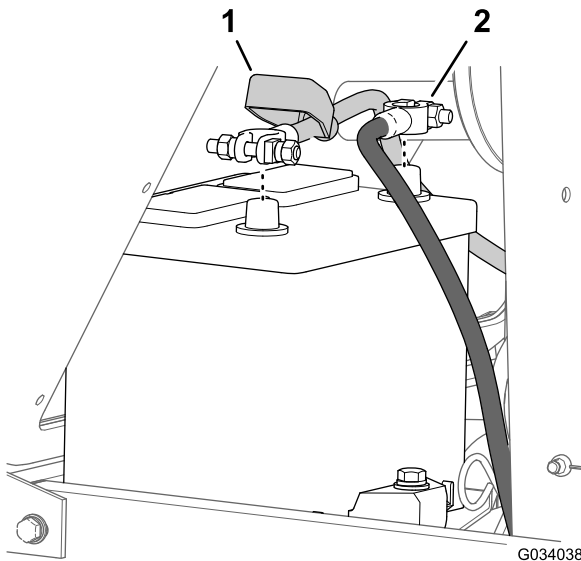

Figure 56
2. Disconnect the negative (-) cable from the battery post (Figure 56).
3. Slide the insulator cover away from the battery-cable clamp (Figure 56).
4. Disconnect the positive (+) cable from the battery post (Figure 56).
7. Connect the cables, positive (+) cable to the positive-battery post (Figure 56).
8. Connect the negative (-) cable to the negative-battery post (Figure 56).